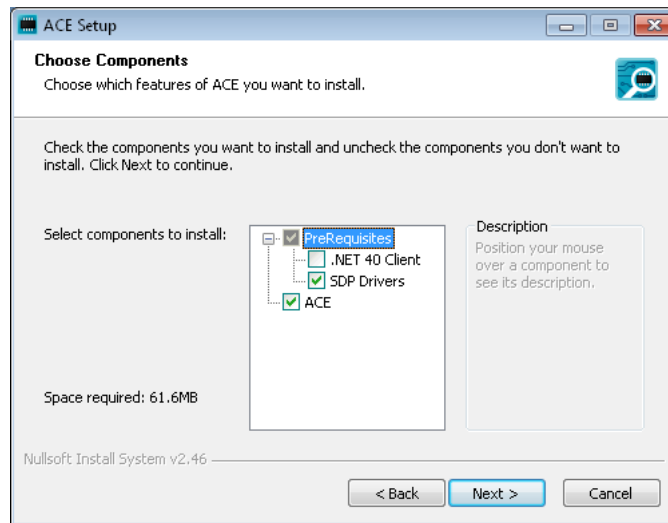

Figure 2.2: ACE Setup Wizard Step 2
**Step 2:** Choose the features of ACE you wish to install, Figure 2.2. It is recommended that all features be selected since ACE cannot be run without the required prerequisites; prerequisites will only be installed if the latest version is not found locally. Click “Next” to proceed to the next step in the wizard.